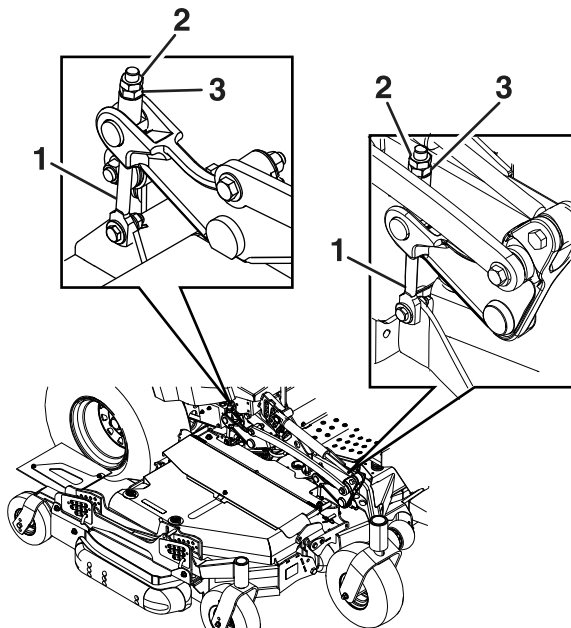

Figure 79
Loosen the jam nuts on the top of each deck adjuster. Fine-tune the adjuster on the front deck-lift assembly by turning it to get the correct height for the left and right, front blade tips on the center deck (Figure 79).
5. If the 4 deck adjusters (Figure 79) do not have enough adjustment to achieve the accurate
6. To adjust the single-point system, first loosen the front and rear height-of-cut plate mounting bolts (Figure 79)